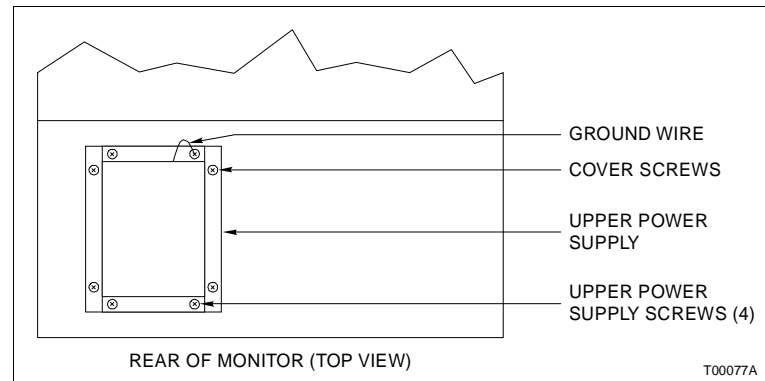

Figure PR65-2. Upper Power Supply
4. Use the Phillips head screwdriver to remove the four cover screws that hold the cover on the upper power supply (Fig. PR65-2).